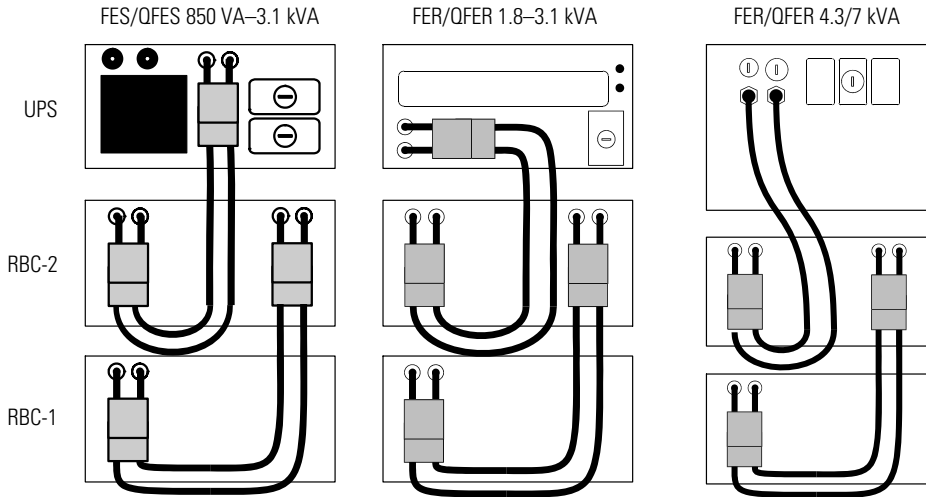

Figure 45. RBC-1 and RBC-2 Battery Connections
If the UPS has more than one battery cabinet, connect the bottom battery cabinet to the middle cabinet as shown in Figure 45.
- If the battery voltage and polarity are correct, connect the cable to the UPS (see Figure 45 if you have more than one battery cabinet; see Figure 46 for only one battery cabinet).